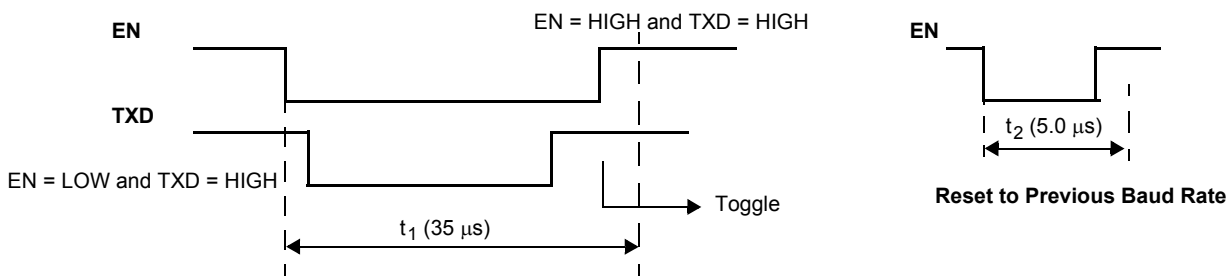

Figure 13. Fast Baud Rate Selection (Toggle Function)
15. See Figure 13, 11.
Fast mode can be selected from either Normal or Slow mode. Fast mode is entered via a special sequence (called toggle function) as follows: TXD and EN pins set Low, then TXD pulled High, and at the EN pin Low-to-High transition, the device enters into the Fast Baud rate. The duration of this sequence must be less than 35 μ s. The toggle function is described in Figure 13. Once in the Fast mode, two different procedures will bring the device back to the previously selected mode (Normal or Slow):
- A glitch on EN where $t_2 < 5.0 \mu$ s also resets the device to the previously selected mode (Normal or Slow) (Figure 13).